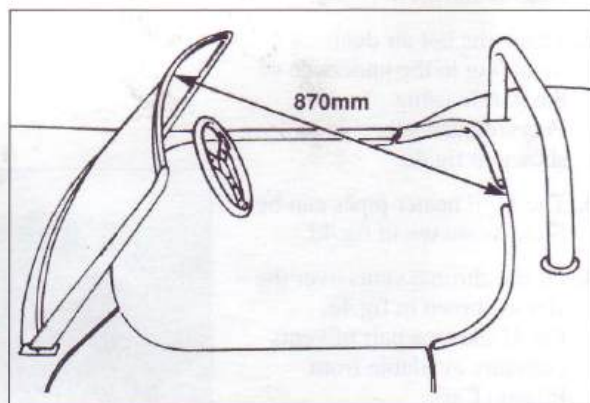

Fig.5c. Sumo Windscreen angle.
2. Position the screen in the slots and ascertain the rake of the screen by making a prop of 870mm in length to go between the back of the cockpit and the centre of the screen as shown in fig.5c. The angle of the screen is important to ensure that the hood fits correctly.